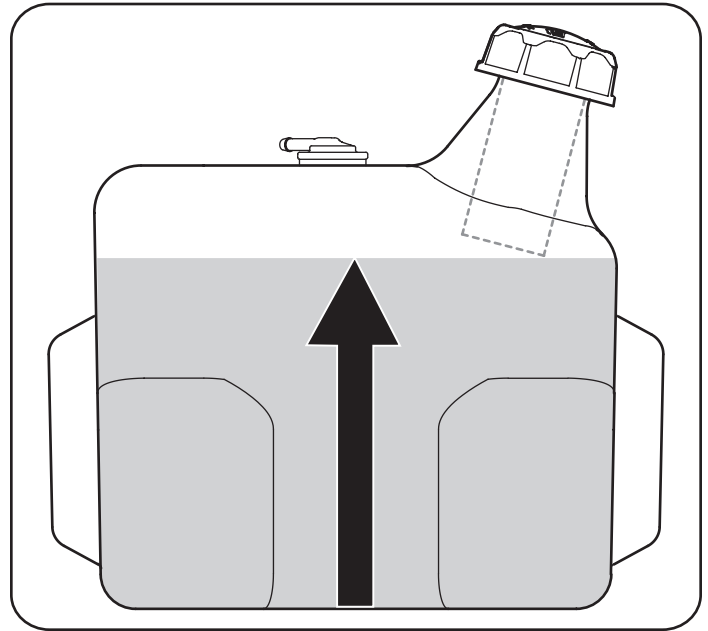

Figure 9
2. Fill the fuel tank with gasoline. Use only clean, fresh (no more than 30 days old), unleaded gasoline. Fill tank to no more than $\frac{1}{2}$ " below bottom of filler neck to allow space for fuel expansion. See Figure 9.
IMPORTANT: Do not overfill the tank. Fill tank to no more than $\frac{1}{2}$ " below bottom of filler neck to allow space for fuel expansion. See Figure 9.